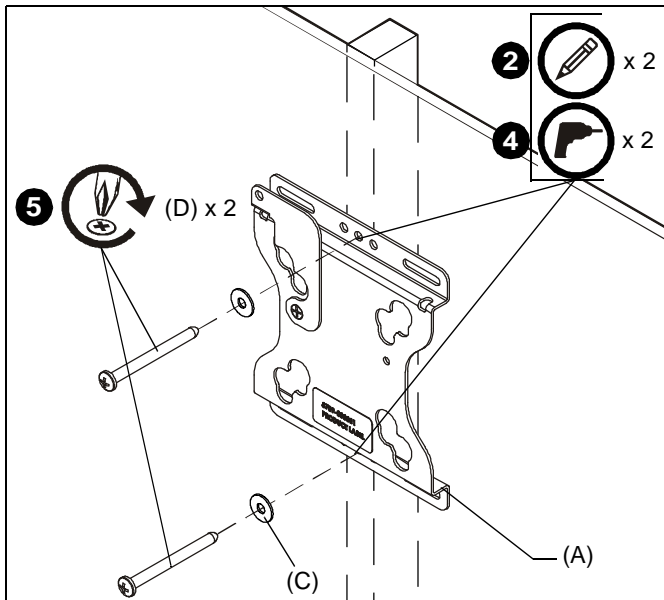

Figure 1
3. Level FSR assembly (A) at desired height and, using it as a template, mark the location of upper and lower pilot holes. Ensure marks are in the center of wood stud.
5. Fasten FSR assembly to wood stud using two #10 x 2-1/2" Phillips head screws (D) through two #10 washers (C), FSR assembly (A), and drywall (not shown) and install into pilot holes. (See Figure 1)